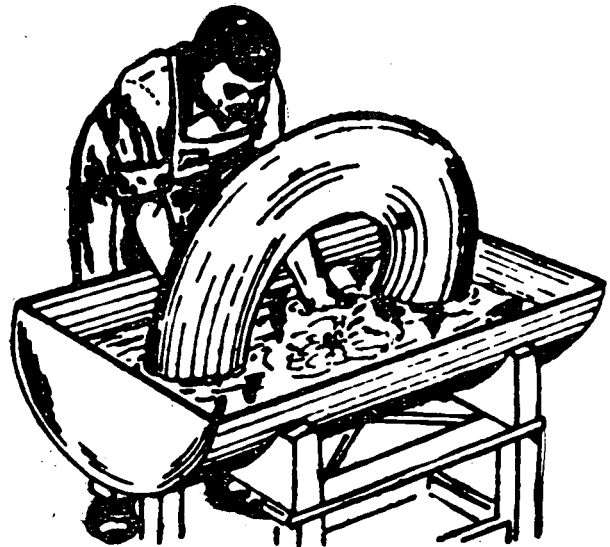

Fig. 1
- b) Hold the tube under water to locate the damage. Turn the tube until you see bubbles. These will indicate the leaks (Fig. 1).